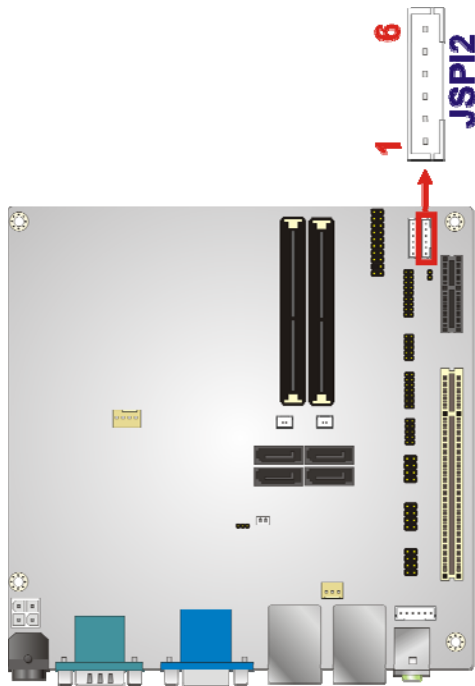

Figure 3-7: EC Update Connector Location
- CN Location:** See Figure 3-7